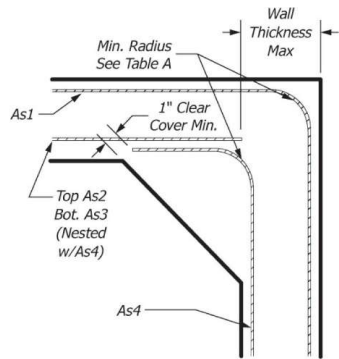
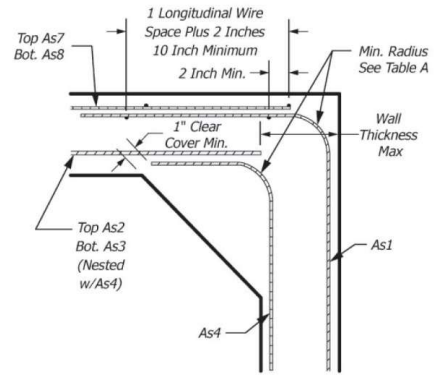

FIG. 9 Alternate Detail
FIG. 10 Alternate Detail
- If the joint configuration requires or at the option of the manufacturer, **Fig. 9** and **Fig. 10** provide a permissible **mitered** INNER cage detail.